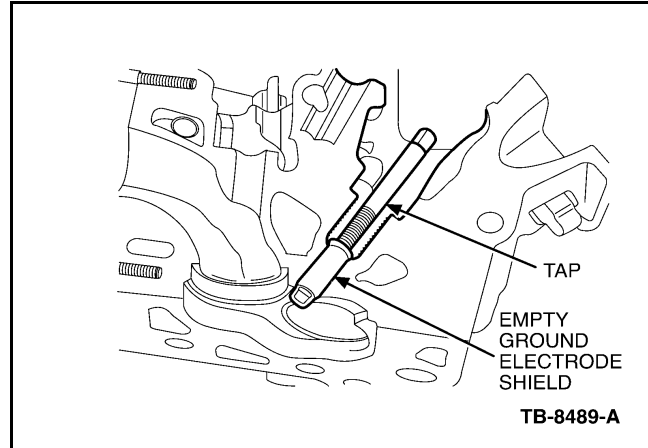

Figure 2 - Article 069-2008-1155
- a. Mode 1: The ground electrode shield is left behind as an empty shell. (Figure 2)